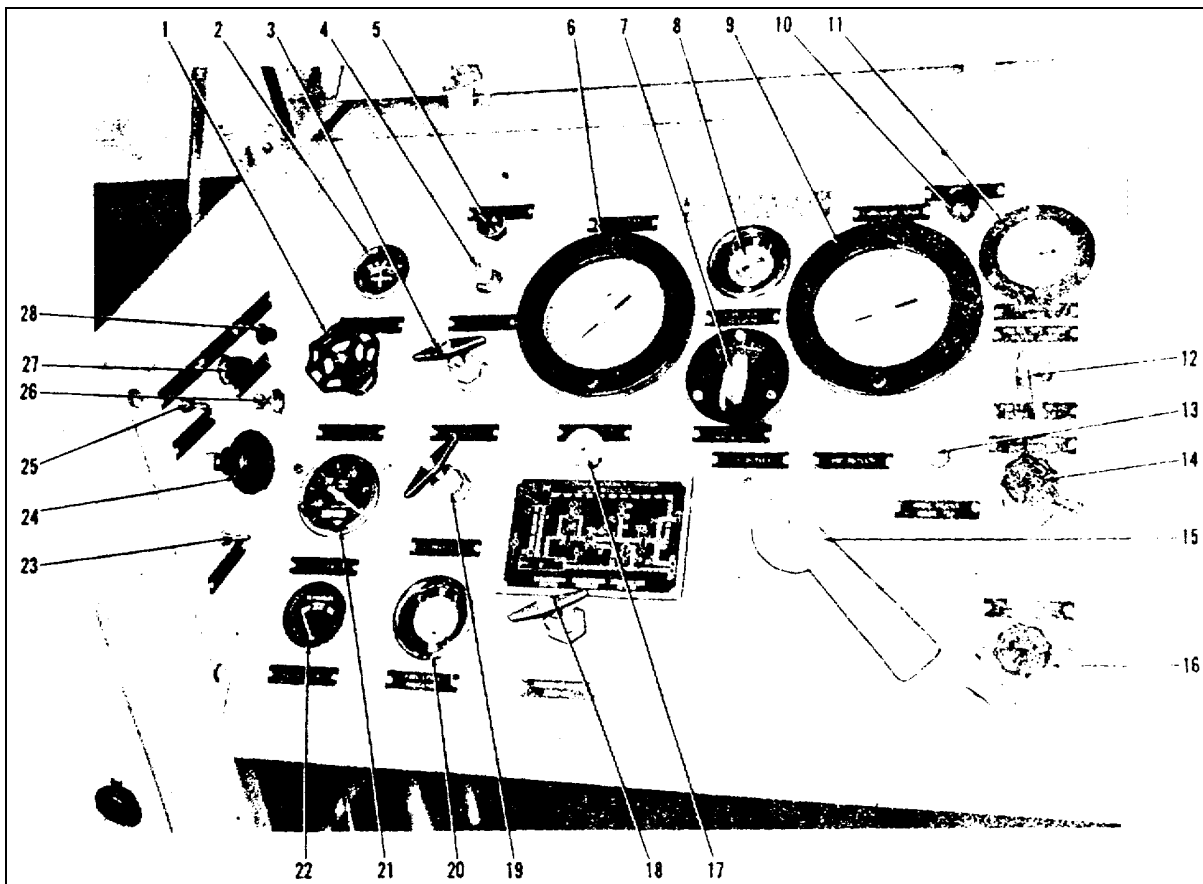
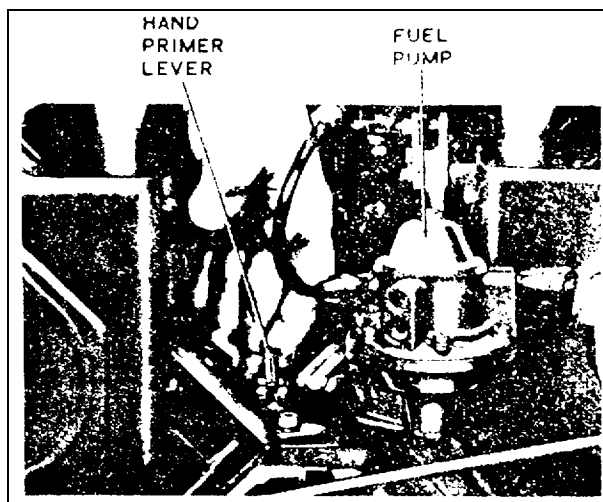

Figure 3-1. Control Panel
Figure 3-2. Priming Fuel Pump
- a. Open bypass valve (19, figure 3-1).
- b. Pull choke control (26) out.
- c. Pull throttle control (24) to one-quarter open position.
- d. When starting a new engine for the first time or an engine that has been out of operation for a period of time, the hand primer lever on the fuel pump adapter (figure 3-2) should be used to pump gasoline into the dry carburetor. A distinct resistance of the fuel pump diaphragm should be felt when moving the hand lever back and forth. If this is not the case, turn the engine over a revolution so that fuel pump cam will be rotated from its upper position. Apply 20 to 30 strokes to the hand lever. When carburetor is full, hand lever primer will move more easily.
- e. Place ignition switch (25, figure 3-1) in ON position.
- f. Press starter switch (27) to crank engine. The engine should start within 2 or 3 crankshaft revolutions. If starting difficulty is encountered, do not continuously hold starter switch